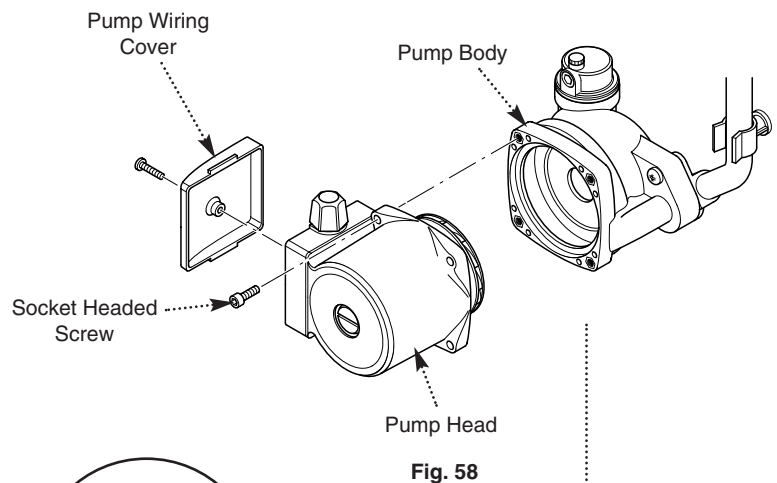

Fig. 58
12.11 Pump - Head Only (Figs. 58 & 59)